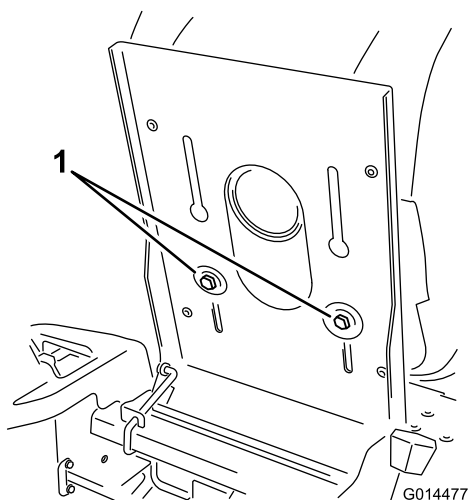

Figure 24
1. Raise the seat and loosen the adjustment bolts just enough that seat can move (Figure 24).